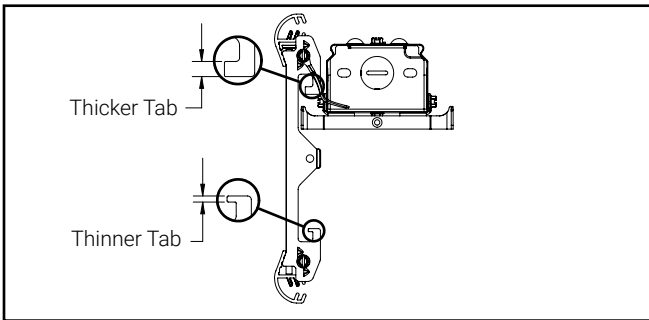

Figure 3.1
- Keep waveguide assembly vertical, make sure the thicker tab end is above the channel hinge bracket. The waveguide bracket with thicker tab will also have the safety cable installed next to it. (Figure 3.1)